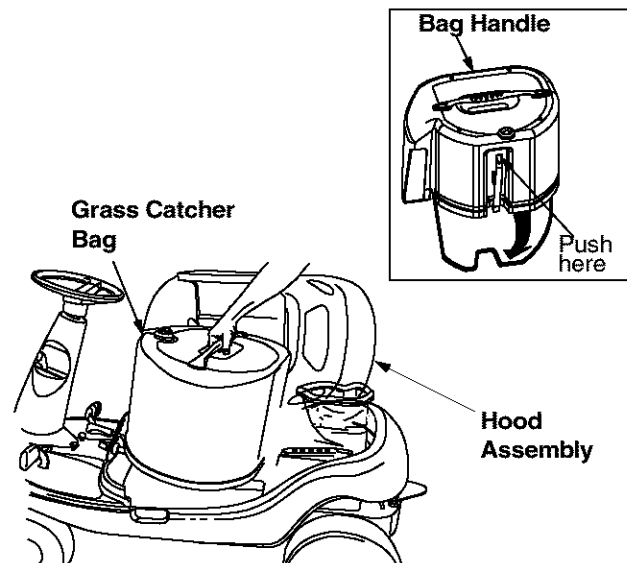

Figure 9
2. Pivot the hood assembly up. Pull up the grasscatcher bag by the handle and take it to the proper disposal site. See Figure 9.
3. Hold the bag away from your body. Push down on the bag lever and let the bottom section of the bag fall downwards. Grass clippings will be disposed off from the bottom. See Figure 9.